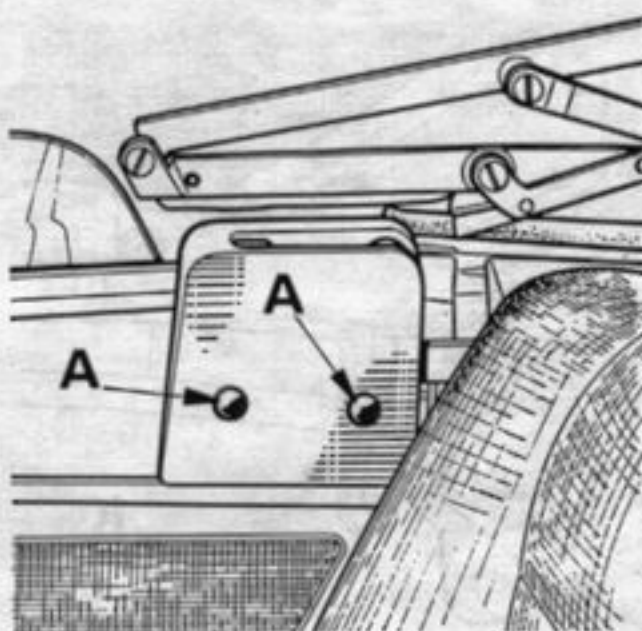

Figure 1
- . caches d'articulation (A, figure 1)